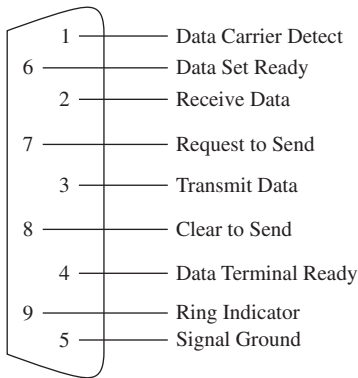

Figure 4-4a
1. Host computer with RS-232 serial port. This will usually be a 9-pin connector; see Fig. 4-4a for pin out.
1. Host computer with RS-485 serial port. This will usually be a 9-pin connector; see Fig. 4-4a for pin out.
2. Green signal – is looped through the devices and connected on the signal – terminal (G). This is not connected to earth or frame ground. Make sure that the connection is electrically and mechanically secure. If the wire should come loose, the network from this point forward will be lost.
3. Orange signal + is looped through the devices and connected on the signal + terminal (Y). Make sure that the connection is electrically and mechanically secure. If the wire should come loose, the network from this point forward will be lost.
4. Red power positive + is looped through the devices and connected on the signal + terminal (R). Make sure that the connection is electrically and mechanically secure. If the wire should come loose, the network from this point forward will be lost.
5. Black power negative – is looped through the devices and connected on the signal + terminal (B). Make sure that the connection is electrically and mechanically secure. If the wire should come loose, the network from this point forward will be lost.